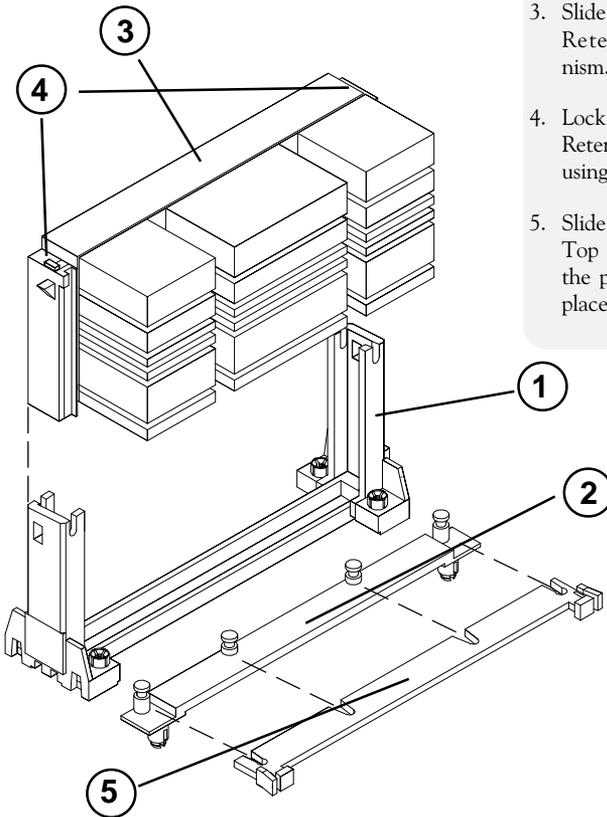

Figure 3-2: Installing a CPU
1. Hold the DIMM so that the notched edge is aligned with the notch on the DIMM socket (Figure 3-2).